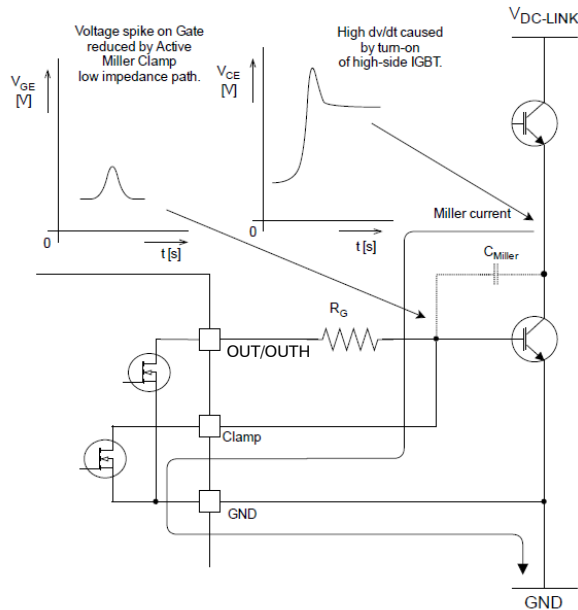

Figure 25. Current Path with Miller Clamp Protection
- In Unipolar power supply the driver is typically supplied with a positive voltage of  $15\text{ V}$  at  $V_{DD2}$ . Dynamic turn on through the internal IGBT input capacitance could be prevented by Active Miller Clamp function (NCD57080A). CLAMP output should be directly connected to IGBT gate (Figure 25)